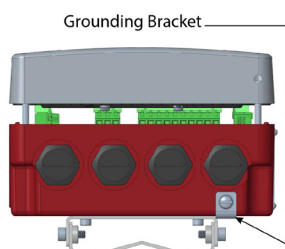

Figure 10: Lift cover from base
5. Insert a wire for earth ground under the grounding bracket (see *Figure 10*) and screw it down tight.